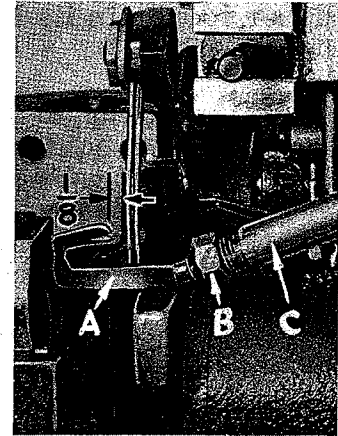

Fig. 5
At this point, insert lower spreader (A, Fig. 5) into bar (C). With lower spreader at the left end of its stroke, set the spreader point  $\frac{1}{8}$  inch from center of left needle, using looper gauge No. 21225 G-1/8. Do not have lower spreader deflecting the needles. Tighten nut (B).